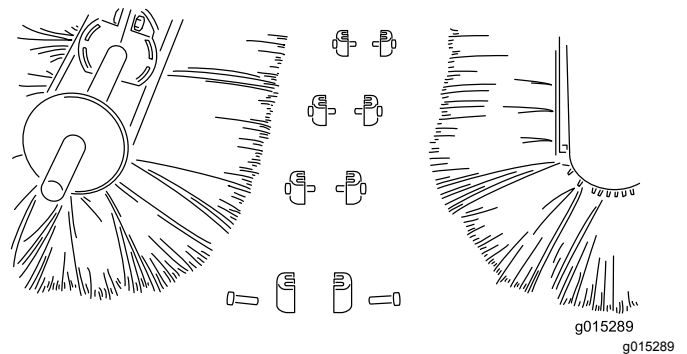

Figure 30
4. Separate the brush halves and discard the damaged section(s) (Figure 30).